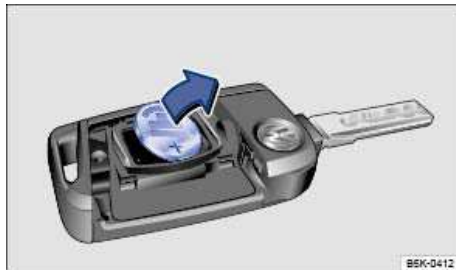

Fig. 20 Remote control vehicle key: Remove old battery.
- Use a thin object to pry the battery out of the battery compartment ⇒ fig. 20.